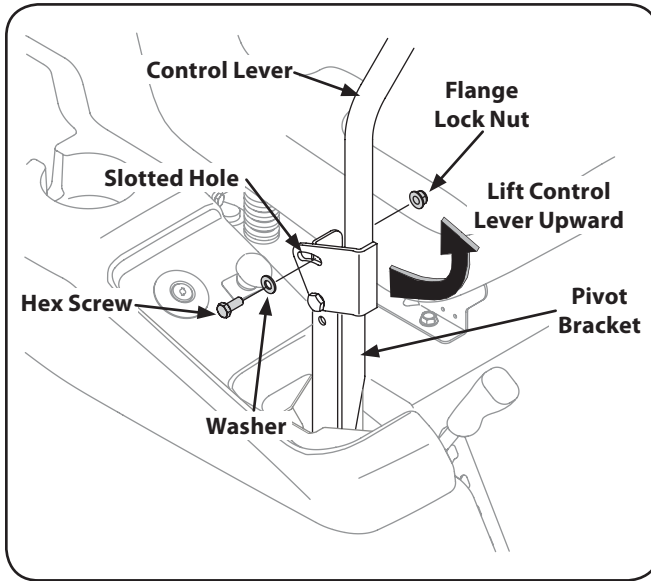

Figure 3-7
2. Lift and swing that control lever upward until the slotted hole in the lever bracket aligns with one of the holes in the pivot bracket. See Fig. 3-7.
3. Slide the flat washer onto the hex screw. From the outside, insert the hex screw with washer through the control lever slot and the hole of the pivot bracket. Secure with the flange lock nut. See Fig. 3-7.